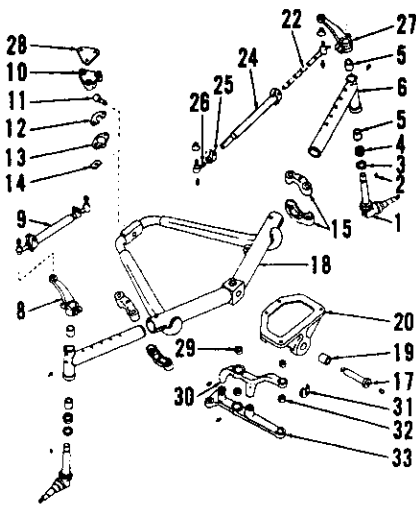

Fig. 5—Exploded view of Series 424, 444, 2424 and 2444 narrow tread adjustable front axle and component parts.
To remove the axle main member assembly, support front of tractor using a jack under the clutch housing. Disconnect tie-rods from steering arm at center of tractor. On models equipped with standard axle (Fig. 4) or heavy duty axle (Fig. 6) and with power steering, disconnect hydraulic cylinders from axle main member. On models equipped with narrow tread axle (Fig. 5) and with power steering, unpin anchor end of cylinder and unbolt and remove lower cylinder arm (33). Remove cylinder or secure with wire on left side of tractor. Then on all models, adjust the height of the jack to